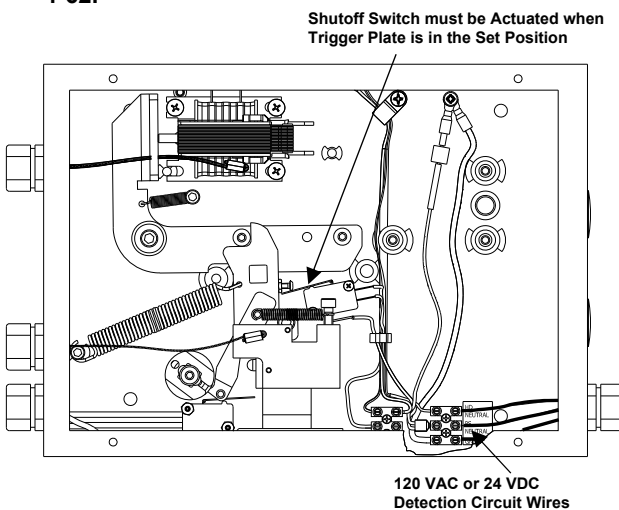

Figure 4-62
3. The Actuating Lever will move with the Trigger Arm and engage the Mechanical Gas Valve Ratchet and take the pressure off the microswitch paddles, returning them to their SET positions. See **Figure 4-62**.